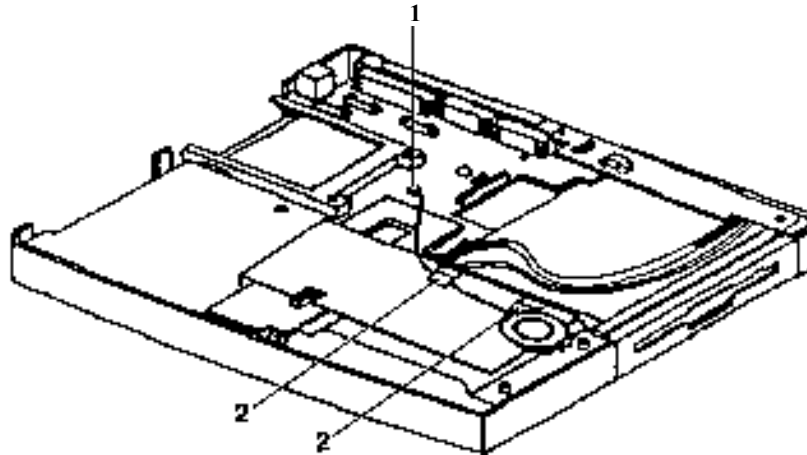

FIGURE 7-12. SPEAKER DISASSEMBLY/REASSEMBLY
2. UNPLUG THE SPEAKER CABLE (FIGURE 7-12 #1).
2. FIX THE CABLE IN THE FOLDS (FIGURE 7-12 #2) AND RECONNECT THE CABLE (FIGURE 7-12 #1).